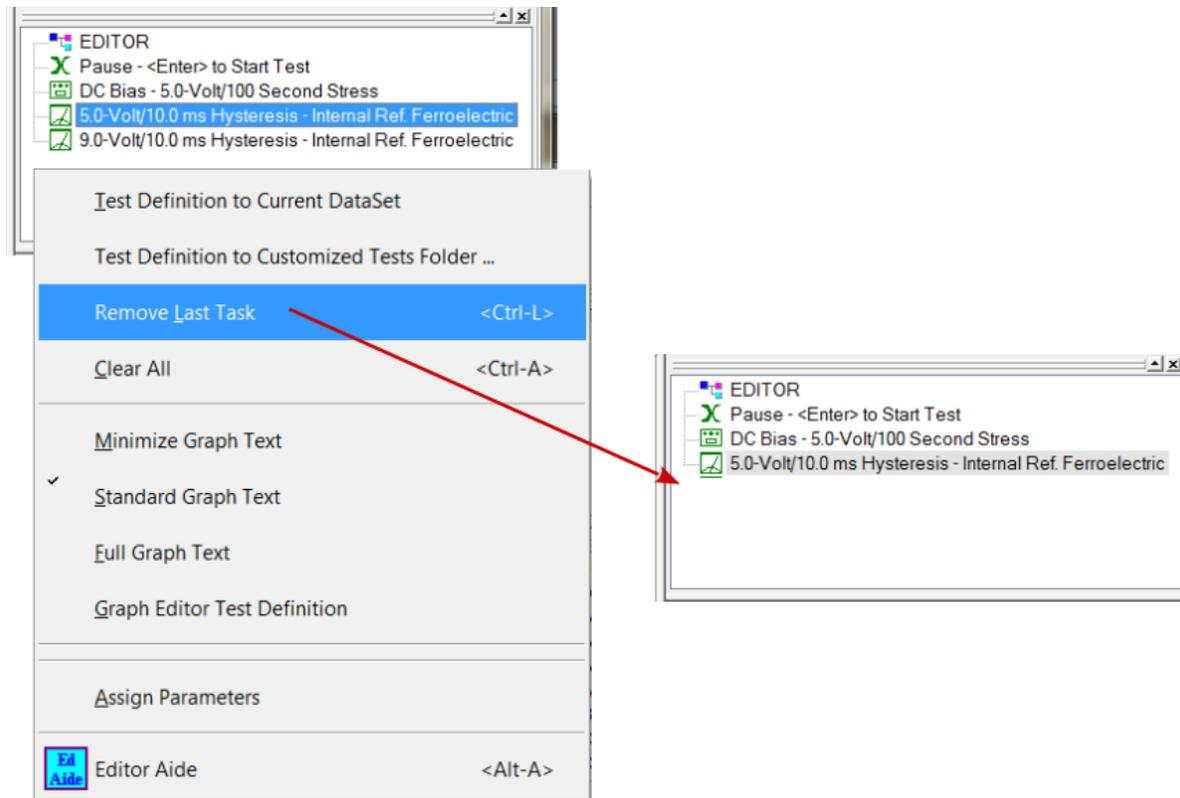

Figure 6 – EDITOR "Remove Last Task" Operation.
Another method of saving data from Tasks executed in QuikLook is to export their data using plotting tools discussed elsewhere. A more efficacious method for exporting is provided directly within Vision. An *Export* button has been added to the QuikLook results dialog as in **Figure 6**.
4. **Archive.** This is a repository for all previous executions of the CTD or earlier manifestations of the CTD (**Figure 6**). It consists of a number of Executed Test Definitions (ETDs). Each ETD takes the name of the CTD that was active when the ETD was created. To resolve duplicate name issues, a serial value is appended to the ETD name and separated from it by a “.”. The serial value begins at 0 and is incremented indefinitely until the CTD is renamed, at which time it is reset to 0. Each ETD contains two subfolders labeled “Experiment Design” and “Experiment Data”. The Experiment Design folder contains a duplicate of the CTD that was active when the ETD was created. The “Exper-
Figure 6 – DataSet Explorer with the Demonstration DataSet tab page open. The Current Test Definition named "Main Manual Demo TD" holds a Pause Task, a DC Bias Task and a Hysteresis Task. The Archive is open to show three Executed Test Definitions: Main Manual Demo TD:0, :1 and :2. Main Manual Demo TD:2 is open to show the "Experiment Design" folder. This is a copy of the